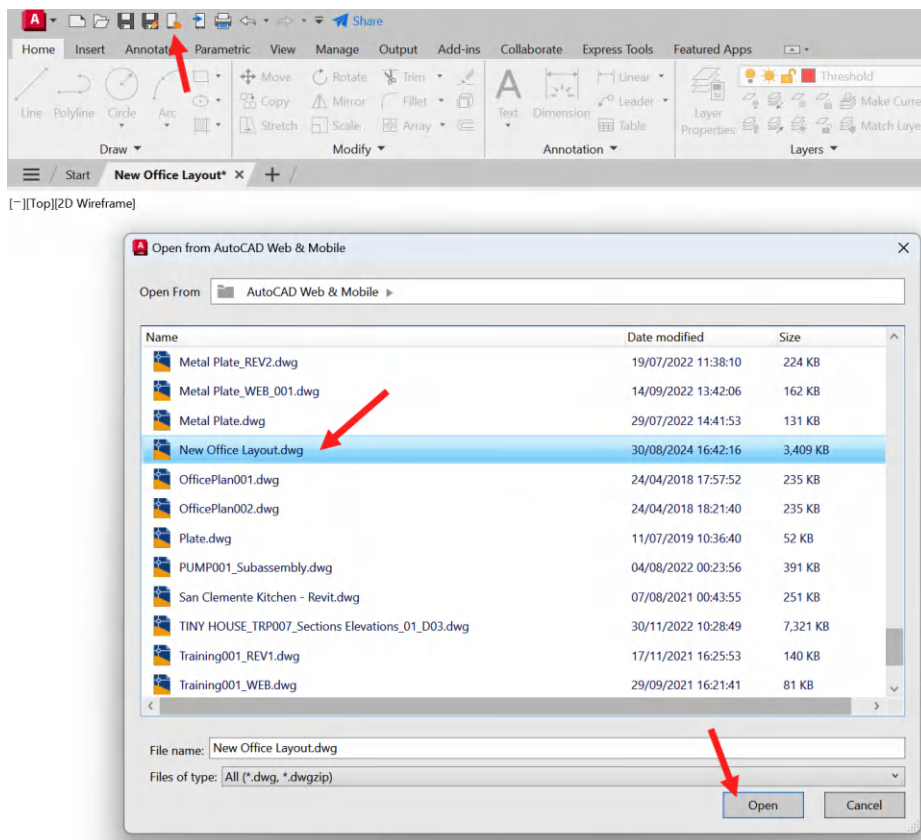

Figure 15.29: Opening the DWG from the AutoCAD WEB & Mobile folders
1. On the AutoCAD desktop, select the `OPENFROMWEBMOBILE` command using the **Quick Access Toolbar (QAT)** icon, as shown in *Figure 15.29*. Then, select the `New Office Layout.dwg` file and click on **Open**.